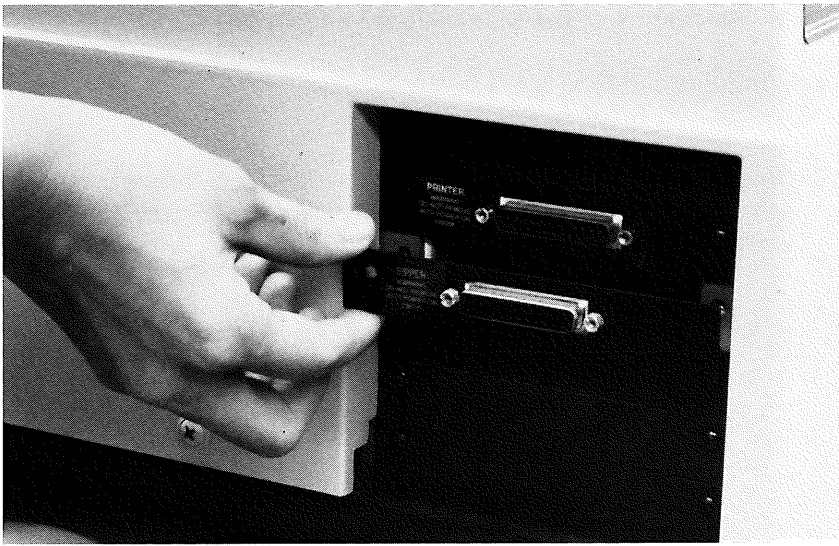

Figure 8.
10. Slide the sipper board into the open position. Push to seat. Secure the board with the two screws removed in step 9. See Figure 8.